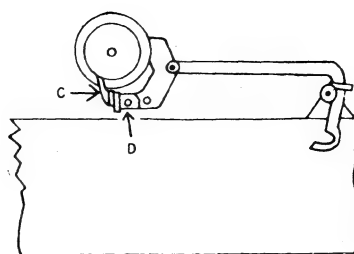

FIGURE 72
- b. Place the trip arm in the reset position as shown in Figure 72.
- c. Move the clutch pawl, C, Figure 72, as far forward as possible.
- d. Adjust the movable leg of the knotter stop, D, Figure 72, until it is tight against the clutch pawl (horizontally).